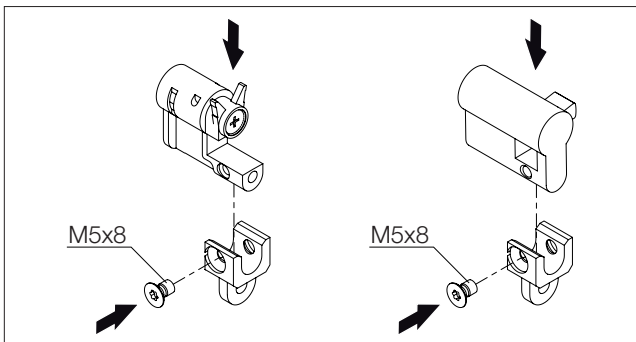

Fig. 2: Fit the lock insert (left) or profile half-cylinder (right) in the holder
- Fit the lock insert or profile half-cylinder in the holder included with the supply of the comfort handle (fig. 2, $M_A = 2 + 1 \text{ Nm}$).